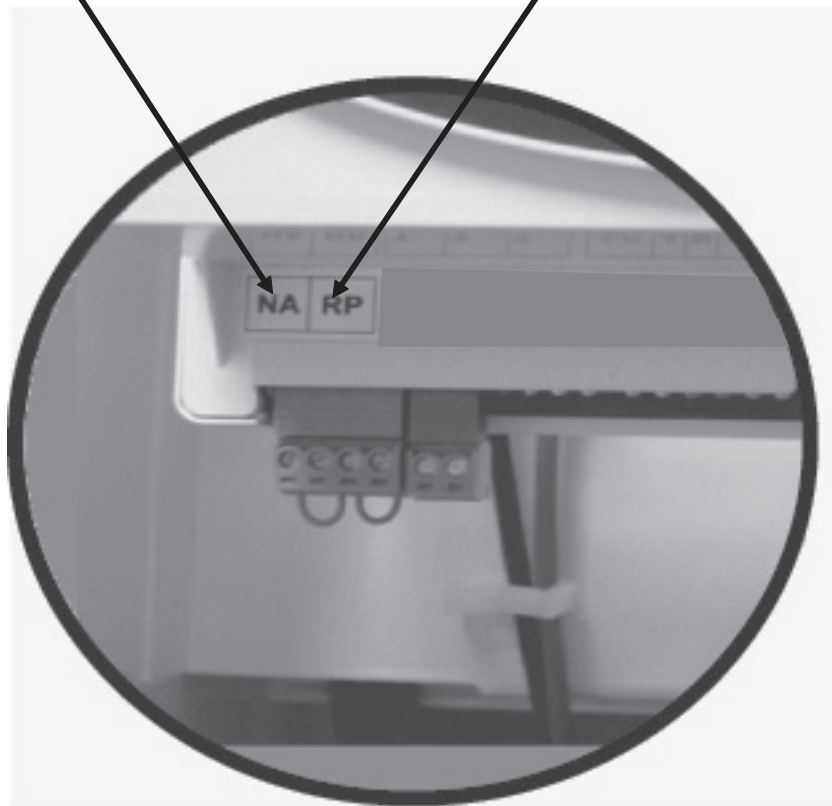

Figure 7
5. Connect the room thermostat / Programmer using the two control conductors marked RP as in Figure 7 & 10.